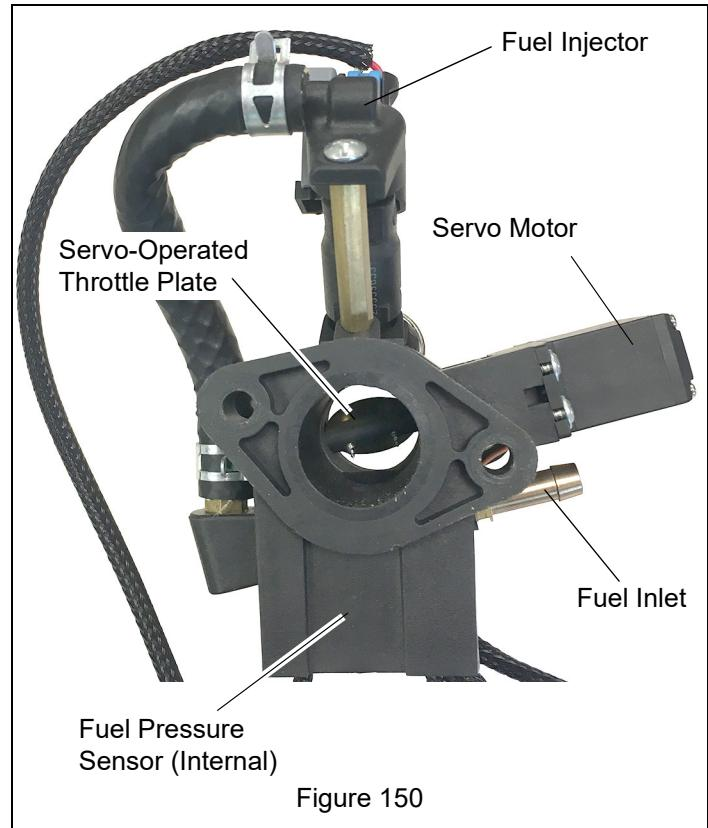

Figure 150
*Throttle body assembly consists of fuel injector, fuel pressure sensor and servo-operated throttle plate. See Figure 150.